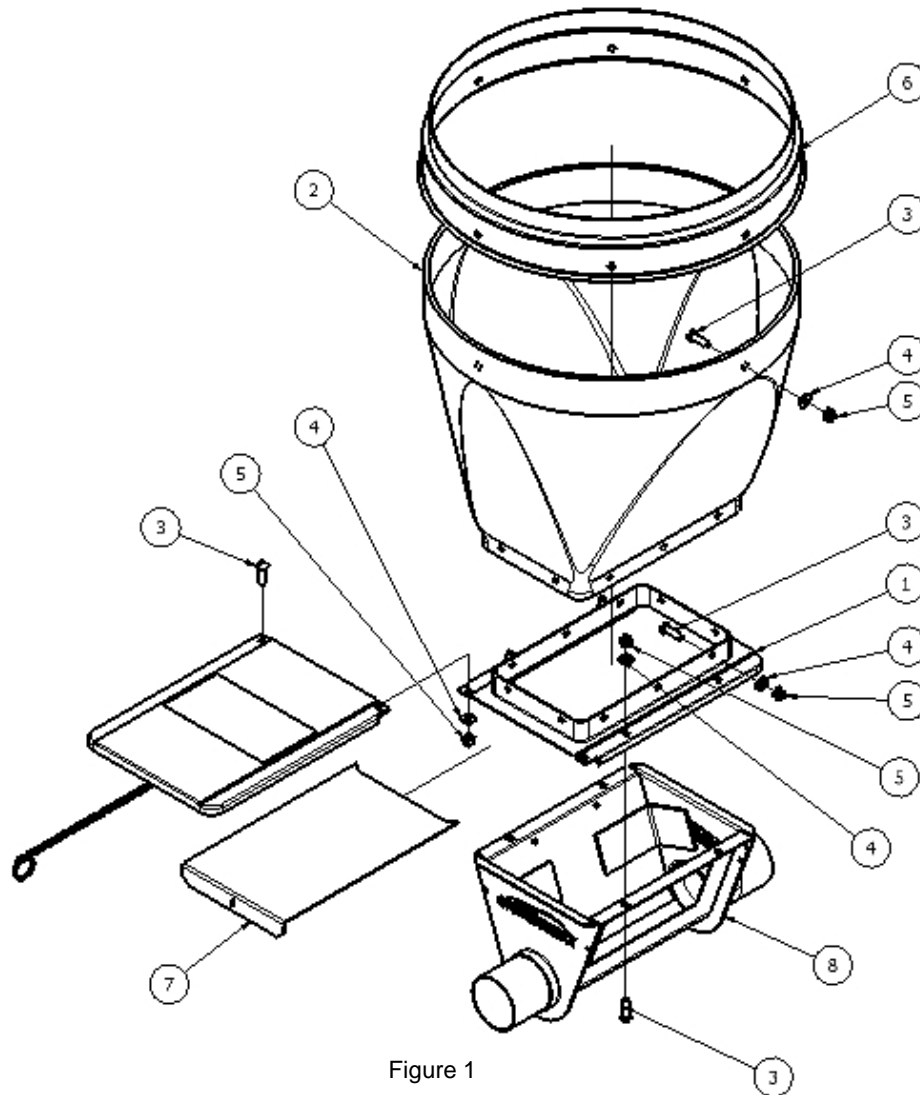

Figure 1
Key, Figure 1
1. Insert the Upper Boot into the bin collar opening and rotate to align with direction that auger line will go. The Upper Boot must be inserted into collar as far as it will go. Using the holes in the Collar or ring as a template; drill eight (8) 11/32" (8.8mm) diameter holes in the Upper Boot rim. Attach the Upper Boot to the Bin Collar using the hardware provided. See Figure 1 for correct orientation and assembly of hardware. Hardware should be tightened evenly around the Bin Collar to avoid uneven stresses applied to Upper Boot.
2. Attach the Transfer Plate to the Upper Boot using the hardware provided in the predrilled holes. (See Figure 1). Transfer Plate should be orientated so that the Slide Gate slot is opposite the anchor bearing end. Please note that screw heads are located on the inside of the Transfer Plate, with nylon washer located under the nuts. Again the tightening sequence should be evenly around the Transfer Plate/Upper Boot to avoid uneven stresses on Upper Boot.